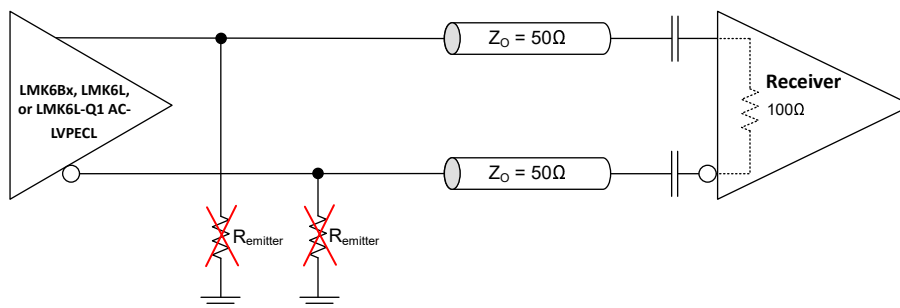

Figure 8-4. Replacing a LVPECL oscillator with the LMK6L-Q1
- Depopulate any emitter resistors as shown in Figure 8-4.